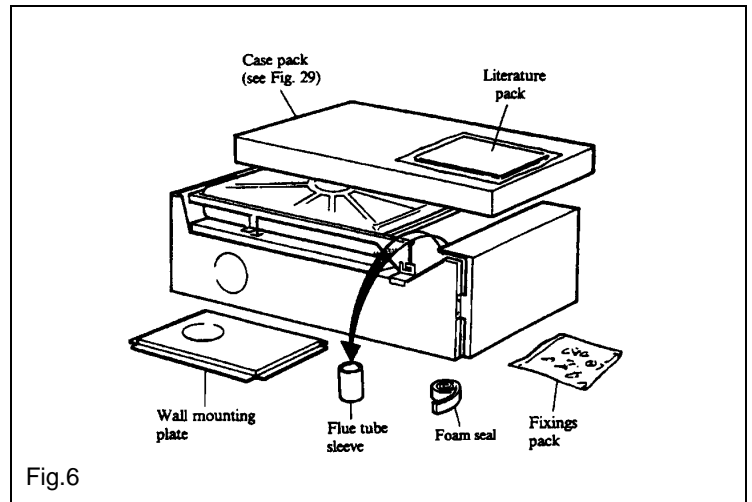

Fig.6
Refer to Fig. 6.
2. Do not discard any packaging until all the items are accounted for, see Fig. 6.